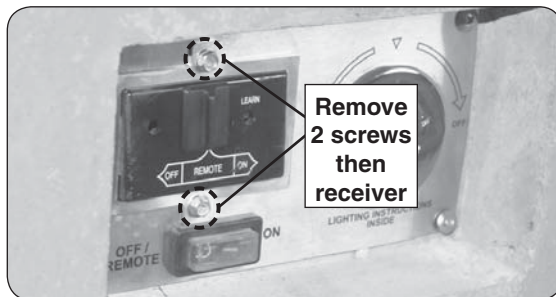

Fig. 24-1 Remove remote receiver assembly
1. Use a 1/4" nut driver to unfasten the remote receiver bracket assembly found on the control panel (2 screws). Then carefully remove the assembly. See Fig. 24-1.